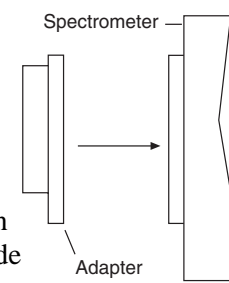

Figure 9. Entrance Slit Shutter Mount
2. Bolt the entrance slit shutter assembly to the entrance slit of the spectrograph. The entrance slit shutter mount used with Acton and TRIAX/SPEX spectrometers requires no disassembly (Figure 9).